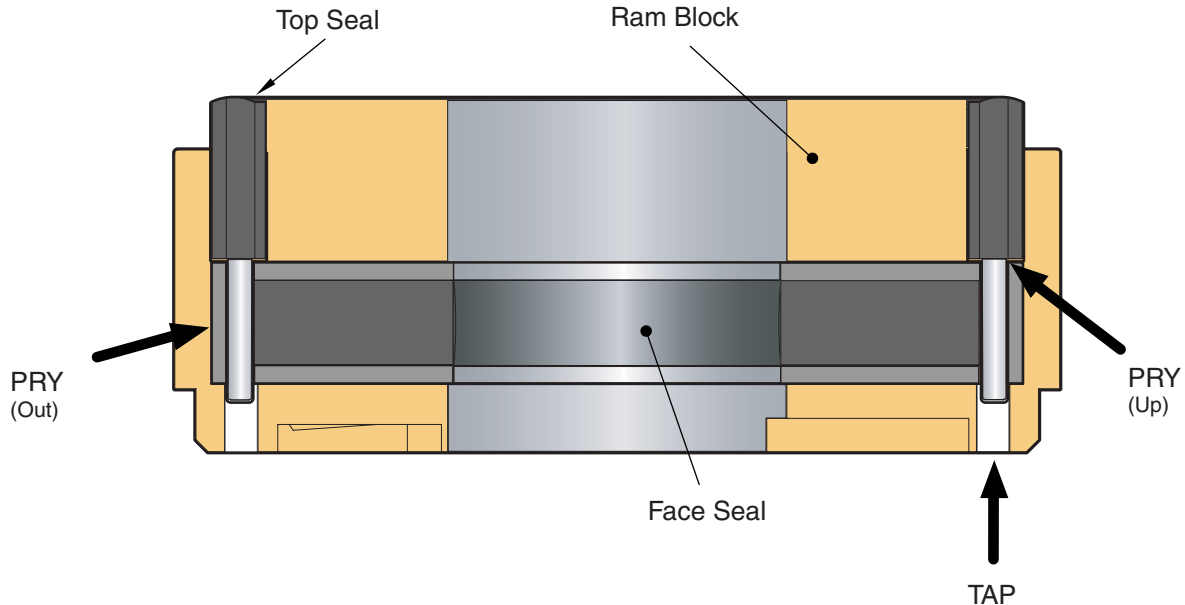

**Figure 4-20. Remove Retracting Screws**
2. Remove the two ram block retracting screws as shown in Figure 4-20 on Page 4-34.